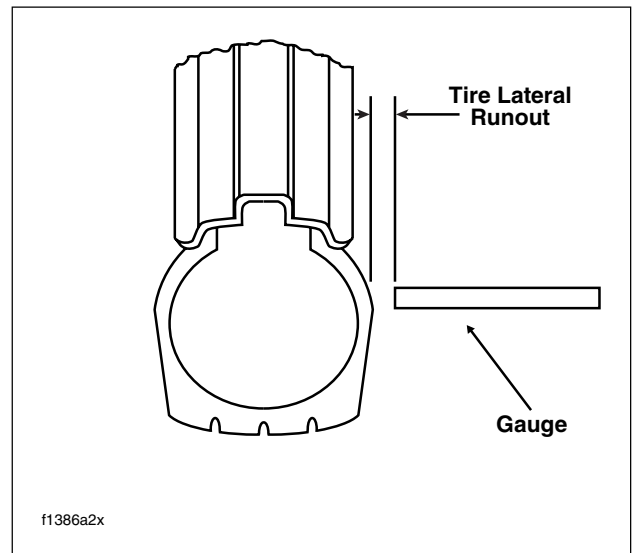

Figure 2-34. Checking Tire Lateral Runout
1. Check runout by turning wheel on axle, measuring tread runout. See Figure 2-34.